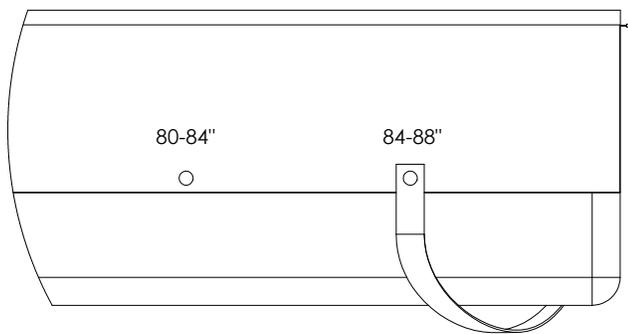

Figure 3
- Secure the straps at the head end by connecting using the appropriate set of snaps depending on the length of the mattress (Figure 3)